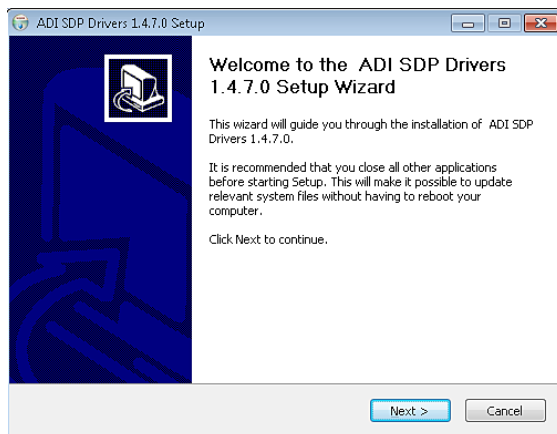

Figure 13. EVAL-SDP-CB1Z Drivers Setup: Beginning the Drivers Installation
- With the EVAL-SDP-CB1Z board still disconnected from the USB port of the PC, make sure that all other applications are closed, and then click **Next** (see Figure 13).